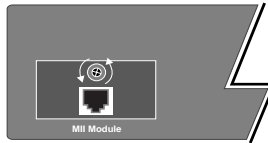

Figure 2-8 Securing an MII module
- 4** Screw the module into place by tightening the thumbscrew on the module's cover. See Figure 2-8.